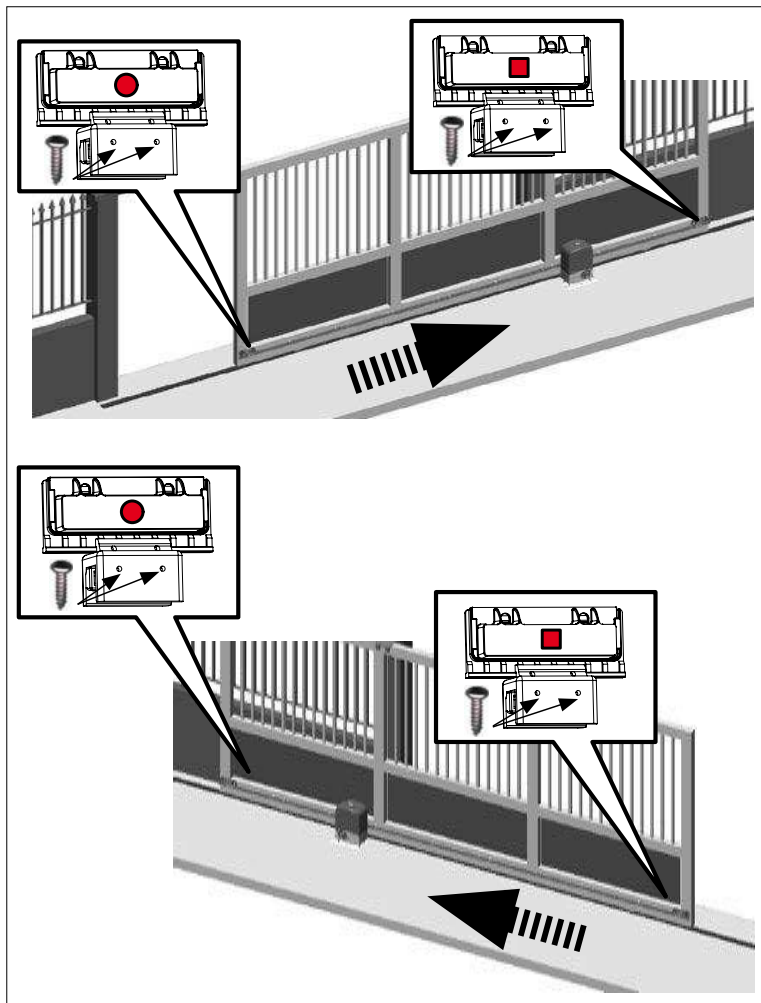

Fig.18
Important: For correct functioning of the operator, the magnet with the circle must be positioned to the left of the motor and the magnet with the square must be positioned to the right of the motor (SEE FIGURE 18)
- 1) Assemble the two magnets as indicated in figure 18.